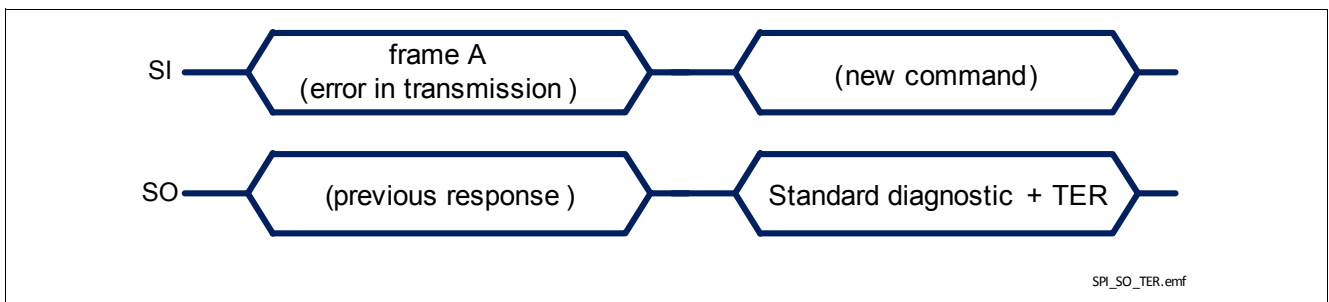

Figure 9-8 BTS54220-LBA response after a error in transmission
- in case an error in transmission happened during the previous frame (for instance, the clock pulses were not multiple of 8), shown in Figure 9-8